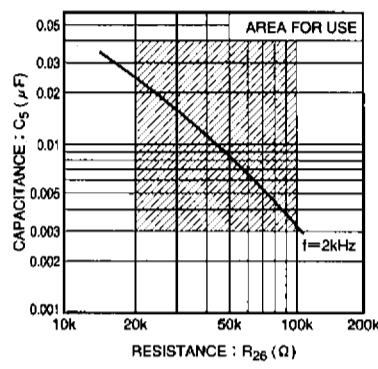

Fig. 7 Value of external components for oscillator (V_{cc} = 5.0V)
- 3) The external resistor R26 connected to the oscillator (pin 28) should be in the range of 20kΩ and 100kΩ. If it is outside this range, oscillation may stop due to the influence of temperature (see Fig. 7).